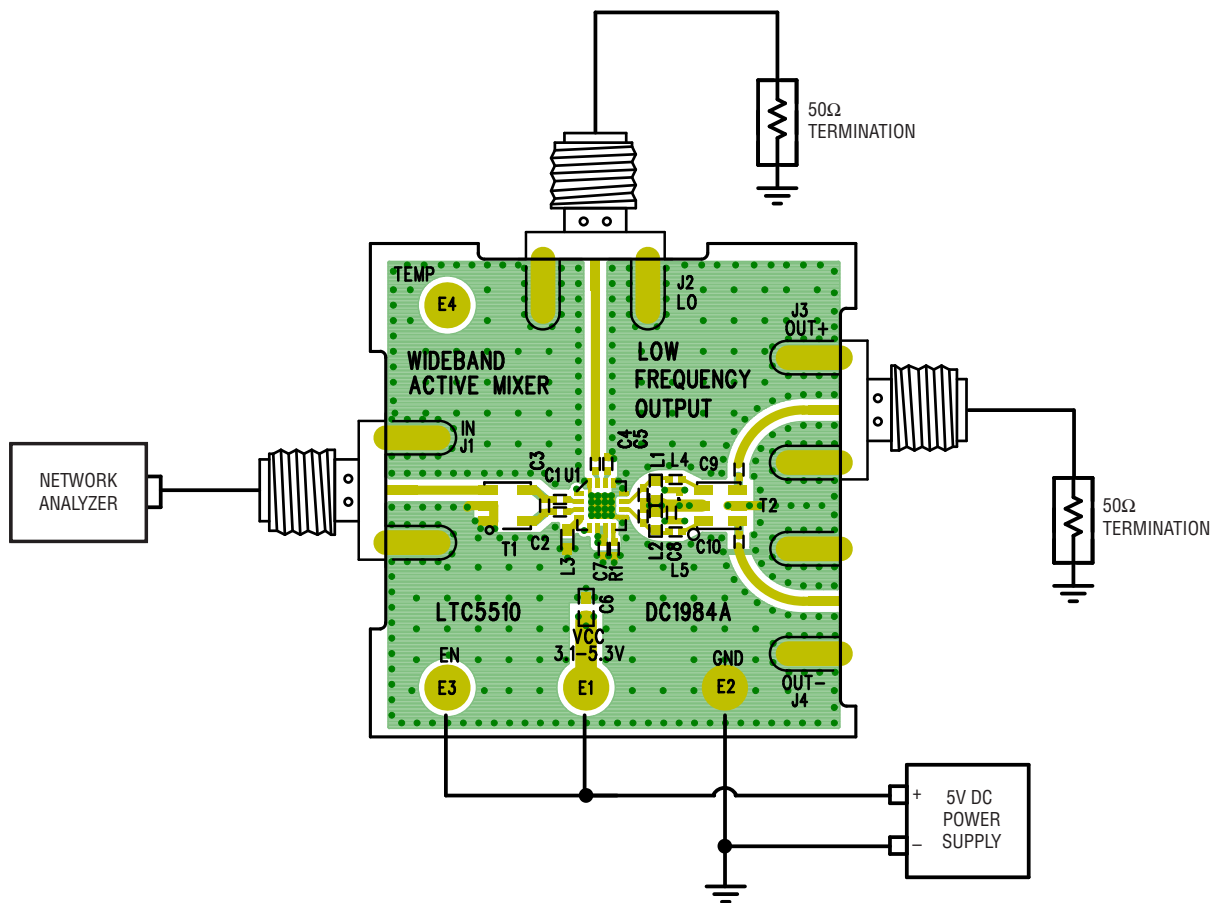
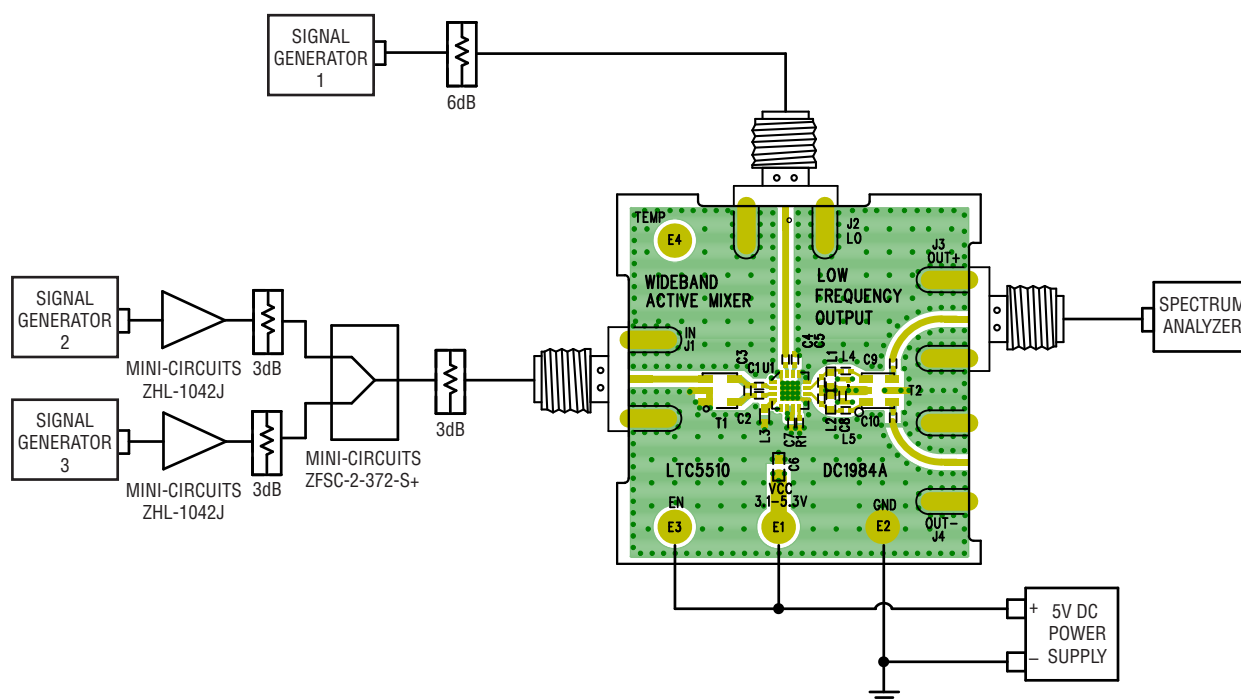
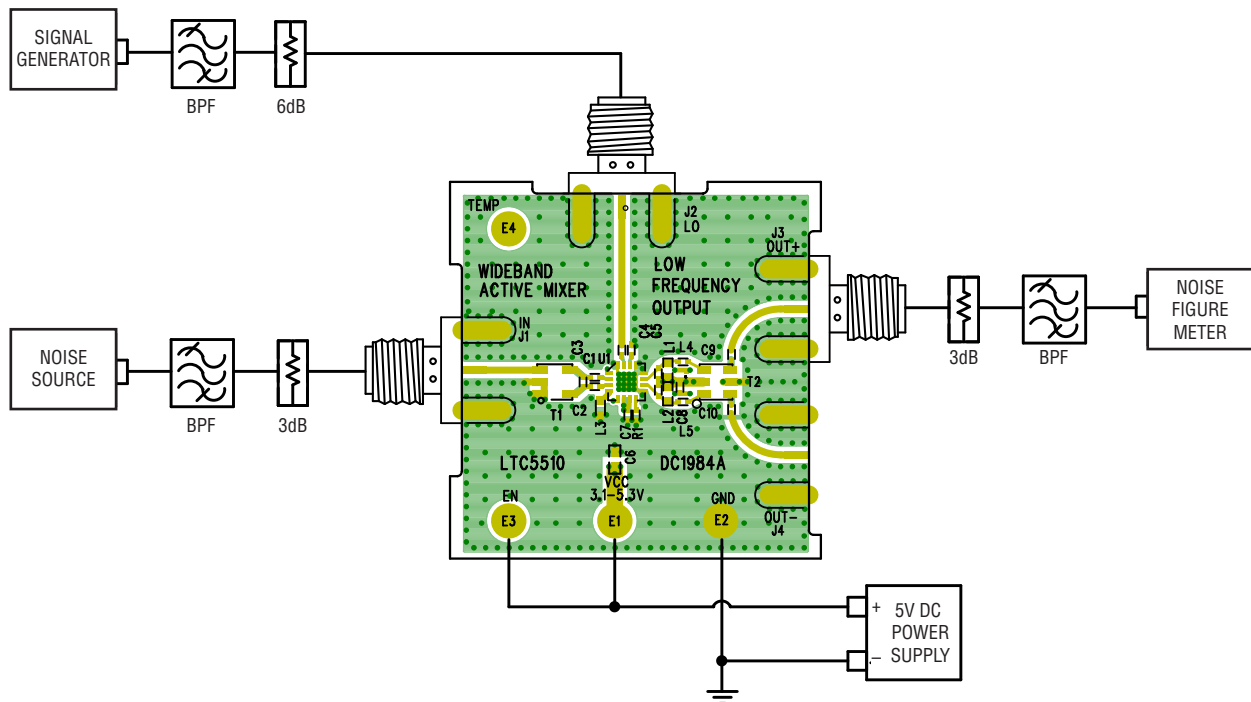

Figure 4. Proper Equipment Setup for Return Loss Measurements
Figure 5. Proper Equipment Setup for RF Performance Measurements
Figure 6. Proper Equipment Setup for Noise Figure Measurement
The LTC5510 is a wideband active mixer IC with very high linearity. Accuracy of its performance measurement is highly dependent on equipment setup and measurement technique. The recommended measurement setups are presented in Figure 4, Figure 5 and Figure 6. The following precautions should be observed:
Demonstration circuit 1984A is easy to set up to evaluate the performance of the LTC5510. Refer to Figure 4, Figure 5 and Figure 6 for proper equipment connections.
3. Connect all test equipment as shown in Figure 4 with the DC power supply turned off.
1. Connect all test equipment as shown in Figure 5, with the signal generators and the DC power supply turned off.
2. Connect all test equipment as shown in Figure 6, with the signal generator and the DC power supply turned off.